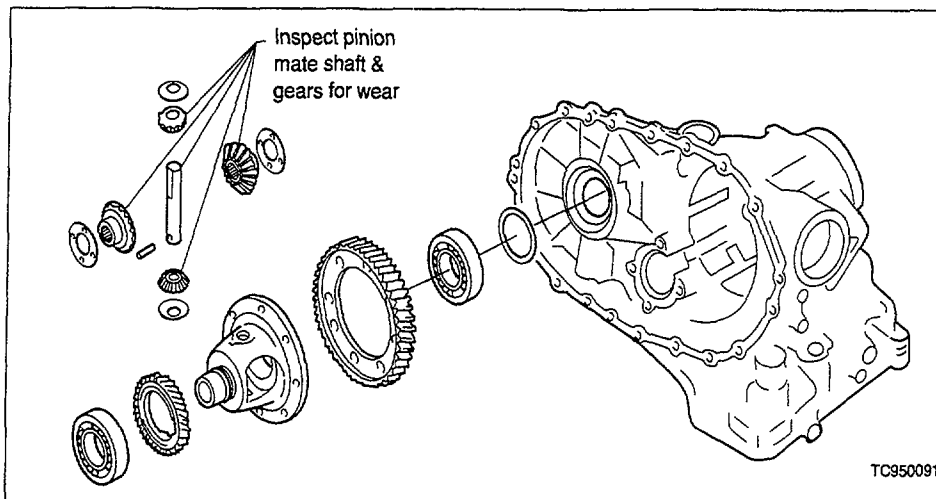

Figure 1
2. If excessive metal debris is found, disassemble the transmission and inspect for burnt or worn components. If wear marks are found on the differential pinion mate shaft, (refer to Figure 1 on the following page), replace the shaft and install a countermeasure differential case P/N 38411-81X01. Replace all other burnt or worn components as necessary.